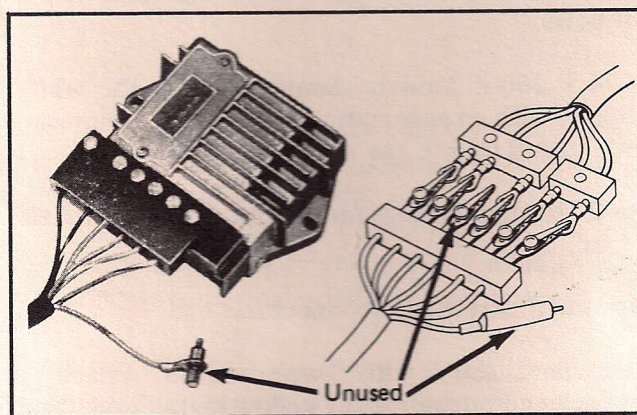

Fig. 4 5-Wire Hook-Up
- (3) All models with 5-wire harness: Connect the harness as shown in Fig. 4.